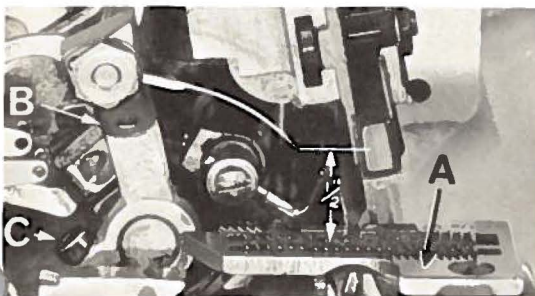

Fig. 3
With throat plate assembled in position, needle should center in the front end of needle slot. When needle is at high position, needle point should be set $1/2$ inch above throat plate (A, Fig. 3) for styles 39500 FA, FB, FY, GF, GS, JE and JG; $15/32$ inch for Styles 39500 GA and JF, and $35/64$ inch for Style 39500 FP. To align needle or set the height above the throat plate, move needle driving arm (B, Fig. 3) by loosening clamp screw (C). Remove throat plate.